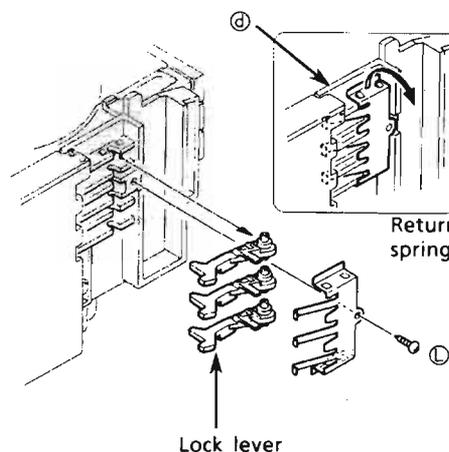
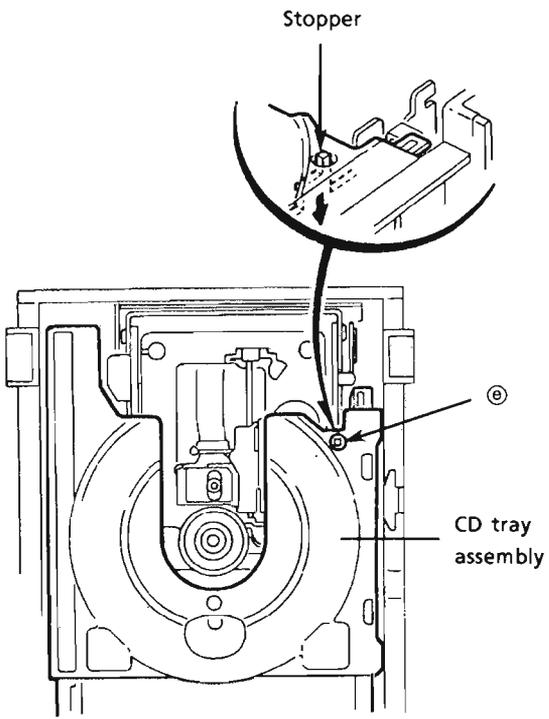

Fig.30
Fig. 31
7. Remove a screw ⑥ which secures the return spring and lock levers from the chassis ass'y.(See Fig. 30.)
8. Remove 2 palls ④ which slightly secure the return spring to remove it.
10. Check that the lifter unit stopper is inserted into hole ⑦ located on CD tray ass'y. (See Fig. 31.)